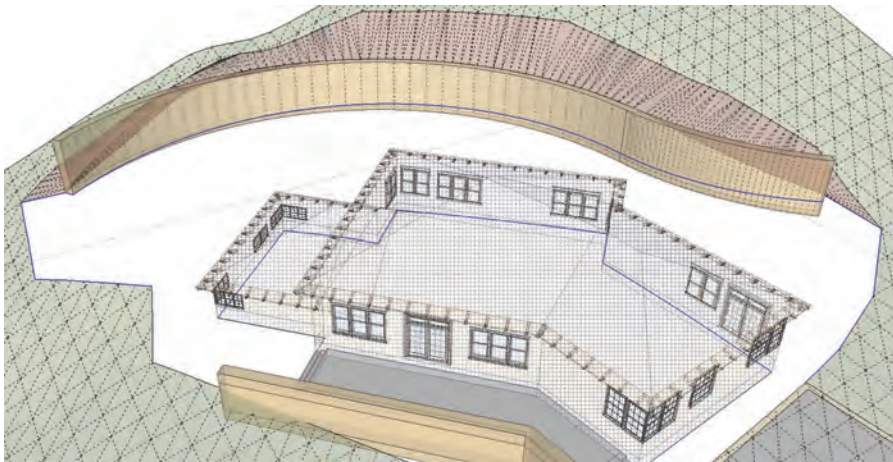

Fig. 15-26: Draw the next profile and select the edges to generate the proposed grade.
4. Draw the next profile and select the edges to generate the proposed grade (Fig. 15-26).